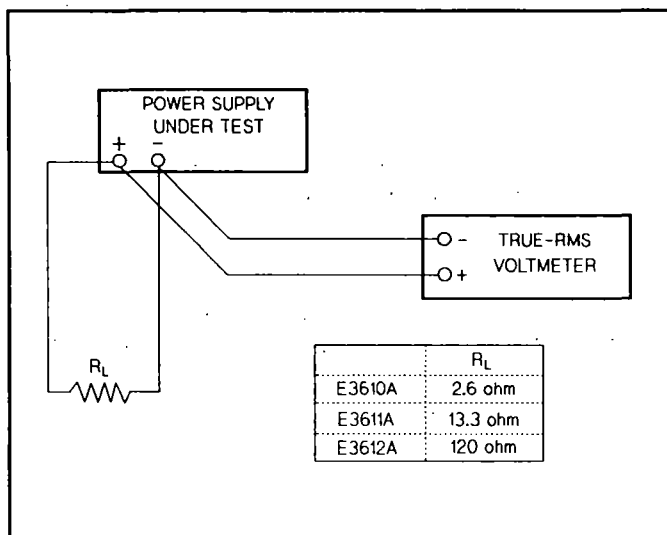

Figure A-4. RMS Measurement Test Setup
- a. Connect the test equipment as shown in Figure A-4.